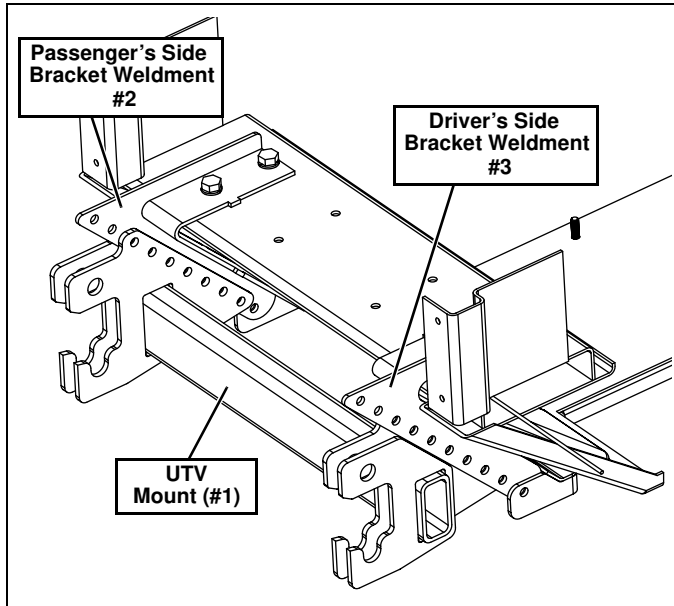

Figure 7
9. Position the UTV Mount (#1) on the machine. The UTV Mount (#1) should be to the inside of both Bracket Weldments (#2 and #3). (See Figure 7.)